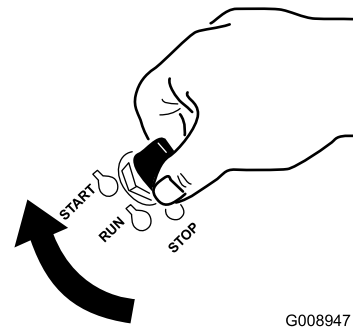

Figure 20
6. Turn the ignition key to the START position (Figure 20).